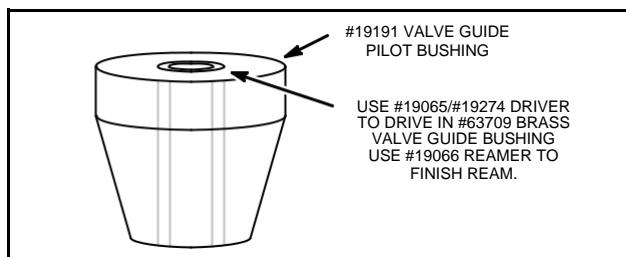

Fig. 516 – MODIFIED PILOT TOOL #19191
**NOTE:** Tool #19191, Pilot Bushing, can be modified to provide more accurate alignment with the valve seat. Counterbore Tool #19191 with Tool #19064. Press in bushing Part #63709 and finish ream with Tool #19066, Fig. 516.
Finish ream bushing with Tool #19066, Finish Reamer, and Tool #19191 (modified), Fig. 516. Finish ream entire guide. Before removing reamer, flush all chips away. Remove reamer by turning reamer in same direction used to ream bushing while pulling up on reamer, Fig. 515.